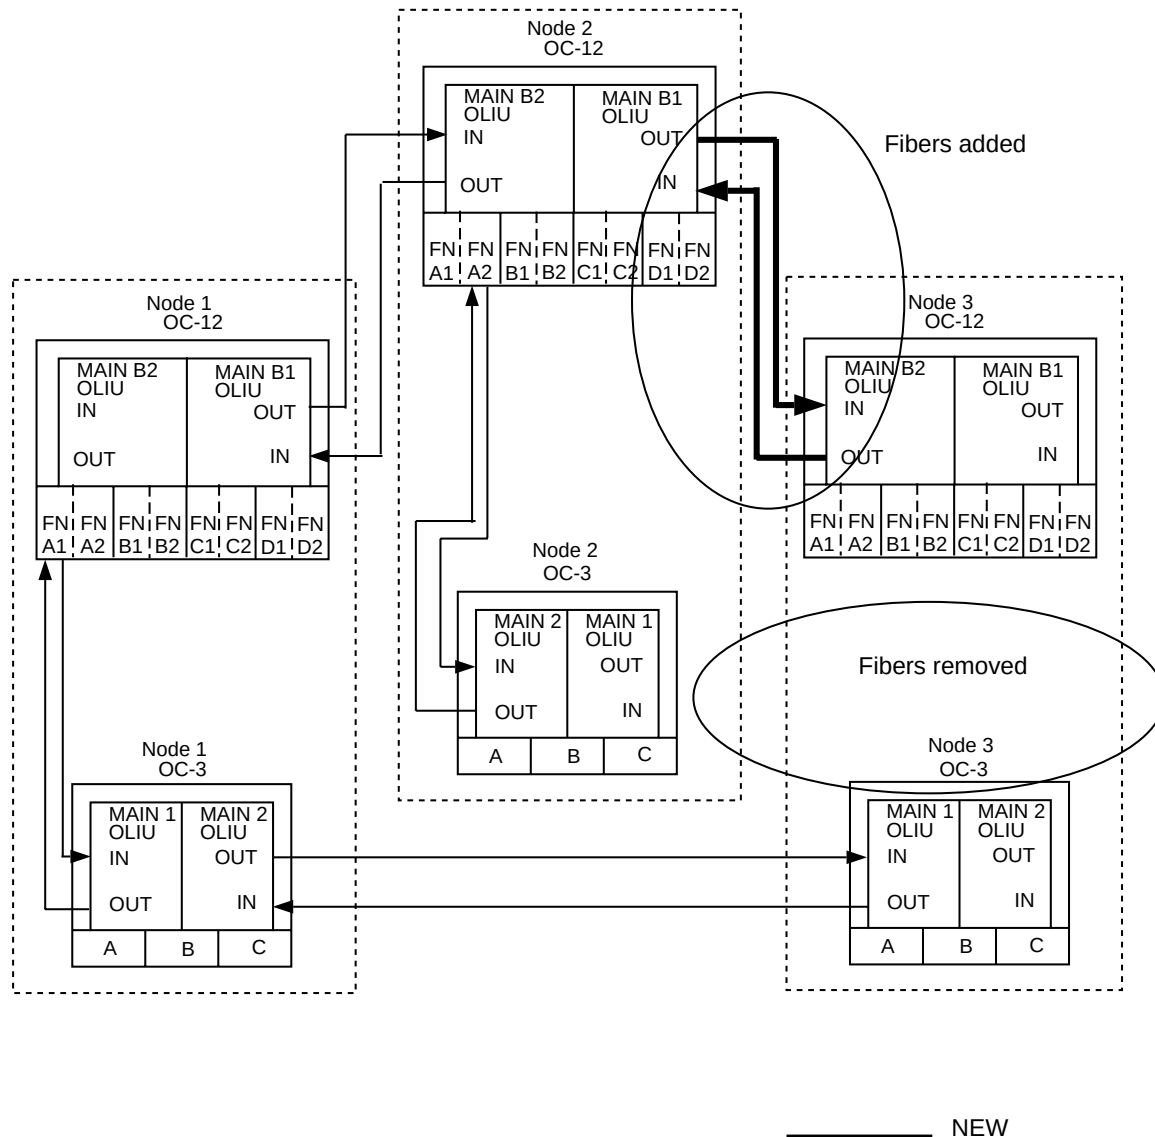

Figure 4. Example of OC-3 to OC-12 Ring Upgrade (4 of 7)
16. See Figure 4. Disconnect the fiber pair between OC-3 Node 2 and Node 3. If required, use these fibers to connect OC-12 Node 2 and Node 3. **DLP-511**